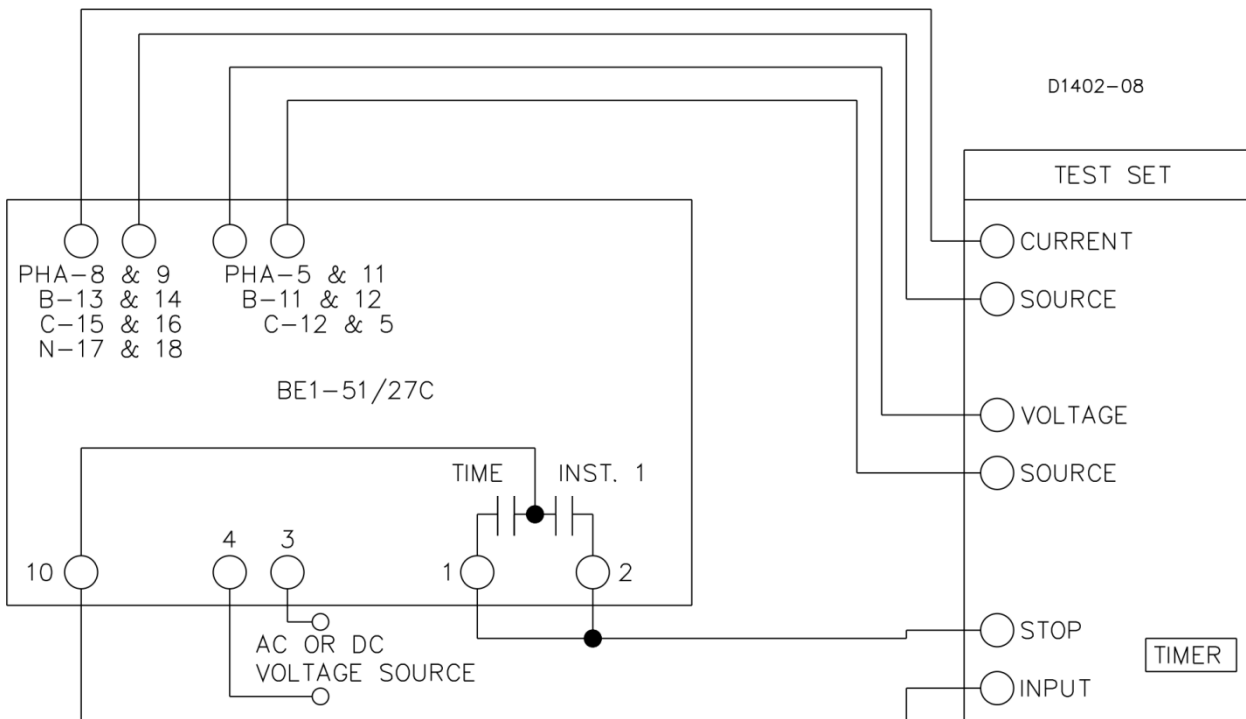

Figure 5-5. Test Setup for Sensing Input Type D (Three-Phase with Neutral Sensing)
- (e) Sensing Input Type D (Three-Phase with Neutral Sensing). Refer to Figure 5-5.